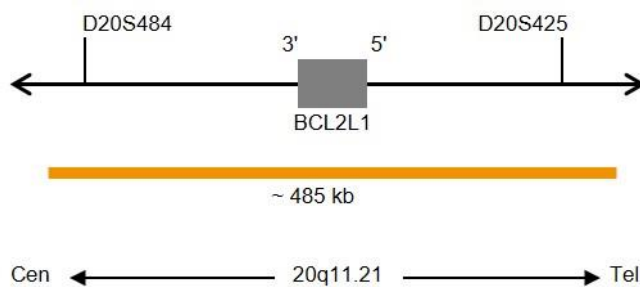

Fig. 1: SPEC BCL2L1 Probe map (not to scale)
- ZyOrange (excitation 547 nm/emission 572 nm) labeled polynucleotides (~4.5 ng/μl), which target sequences mapping in 20q11.21* (chr20:30,035,357-30,522,009) harboring the BCL2L1 gene region (see Fig. 1).